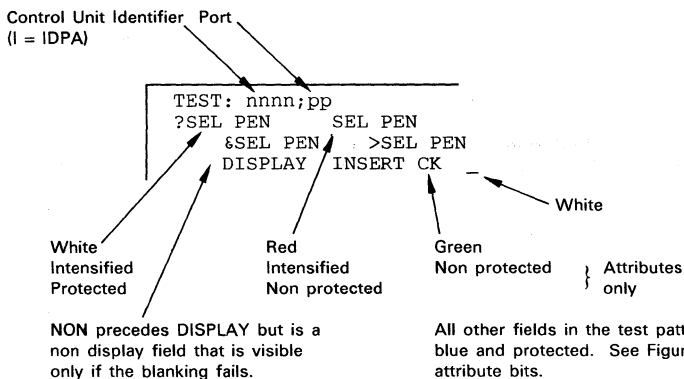

Figure 2-4. Online Test 0 Pattern
2. The alarm sounds when one of the patterns in Figure 2-4 appears.